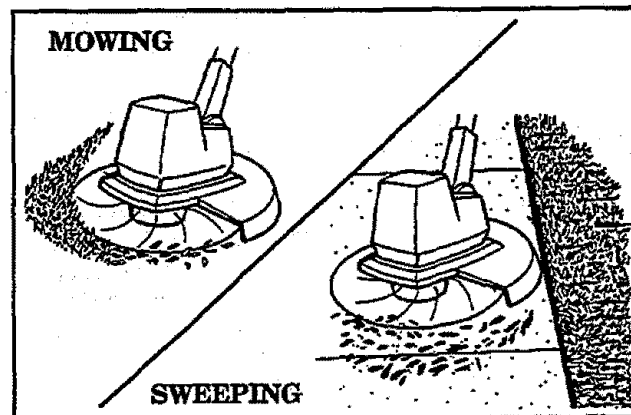

Figure 11
3. **MOWING** - Figure 11. Your trimmer is ideal for mowing in places conventional lawn mowers cannot reach. In the mowing position, keep the line parallel to the ground. Avoid pressing the head into the ground as this can scalp the ground and damage the unit.
4. **SWEEPING** - Figure 11. The fanning action of the rotating line can be used for a quick and easy clean up. Keep the line parallel to and above the surfaces being swept and move the unit from side to side.